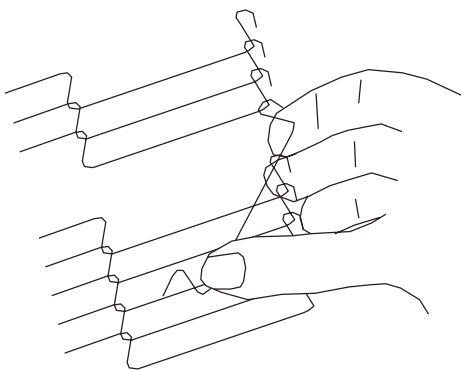

Figure 4-26
3. Remove the outside master links on the right and left sides of the conveyor belt as shown in Figure 4-26.